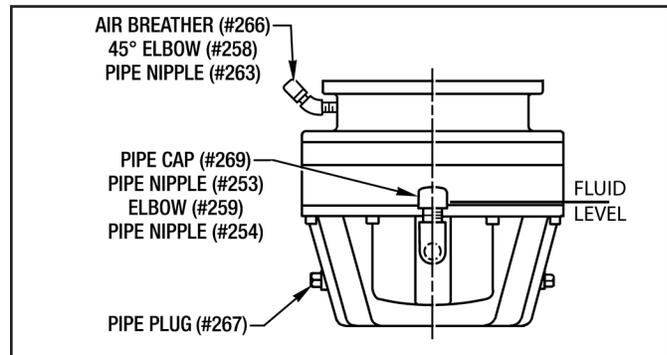

Figure 15 - Air Breather Installation (Brake Down)
1. Remove Oil Sight Gauge (#46). (See Figure 15) Install the 1/2" N.P.T. x 2" long Nipple (#254) into hole. Screw Nipple (#253) into Elbow (#259) and screw Cap (#269) onto nipple. Screw this Assembly onto Nipple (#254). (See Figure 15)
side as the brake goes from vertical to horizontal. Rotate Housing (#8) to achieve this if necessary. (See Figure 15)
3. Install Nipple (#263) along with 45 degree Elbow (#258) and Breather (#266) into the hole in Housing (#8). (See Figure 15)
4. Remove Air Breather (#45) and Reducer Bushing (#76) from End Housing (#9). Install 1/2" N.P.T. Pipe Plug (#267) in the vacated breather hole (See Figure 15) **NOTE:** Reducer Bushing (#76), Air Breather (#45) and Sight Gauge (#46) are not used.